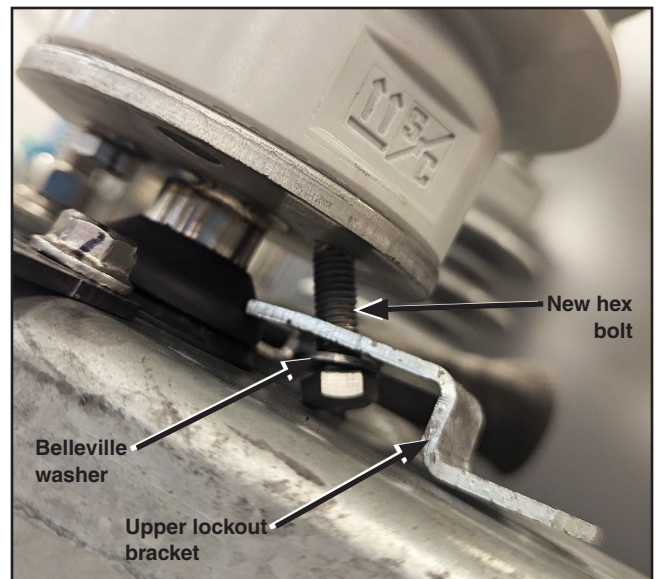

Figure 9. Inserting the upper bracket and bolt.
- STEP 6.** Match the new $\frac{3}{8}$ -16 $\times$ 1-inch hex bolt to the removed bolt. Insert the upper bracket, new bolt, and Belleville washer into the hole from Step 5. See Figure 9.